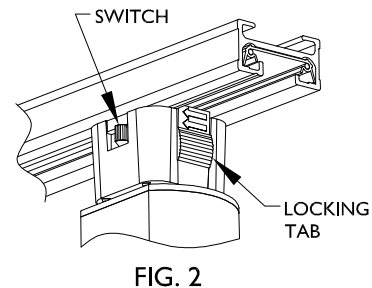

FIG. 2
2. Rotate ADAPTER clockwise 90° until LOCKING TAB snaps into track FIG.2.
3. Orient ADAPTER with TRACK as shown in FIG.2.
3. Orient ADAPTER with TRACK as shown in FIG.2, aligning tab on adapter with groove.